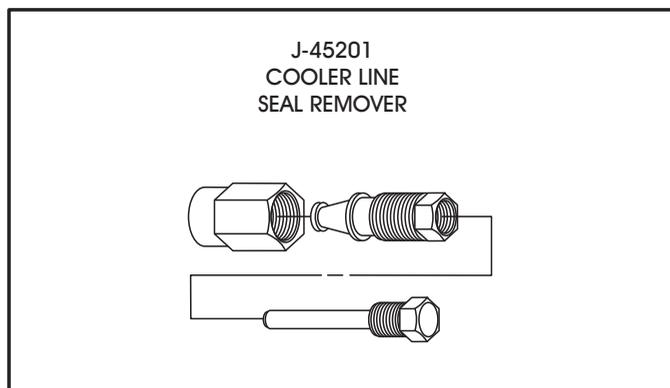

Figure 54
**Note:** *The special tool for the cooler line seal removal can also be used on the manual shaft seal for removal (See Figure 54).*